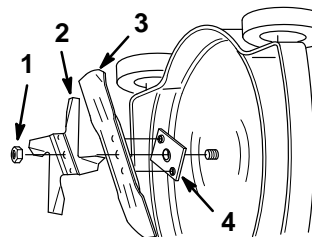

Figure 24
1. Remove the blade nut and mulching fan (Fig. 24).
2. Remove the blade from the blade driver (Fig. 24).
1. Install the blade driver onto the crankshaft (if removed) (Fig. 24).
2. Install the blade over the lugs of the blade driver with the curved ends toward the mower housing (Fig. 24).
3. Install the mulch fan into the blade recess (Fig. 24).